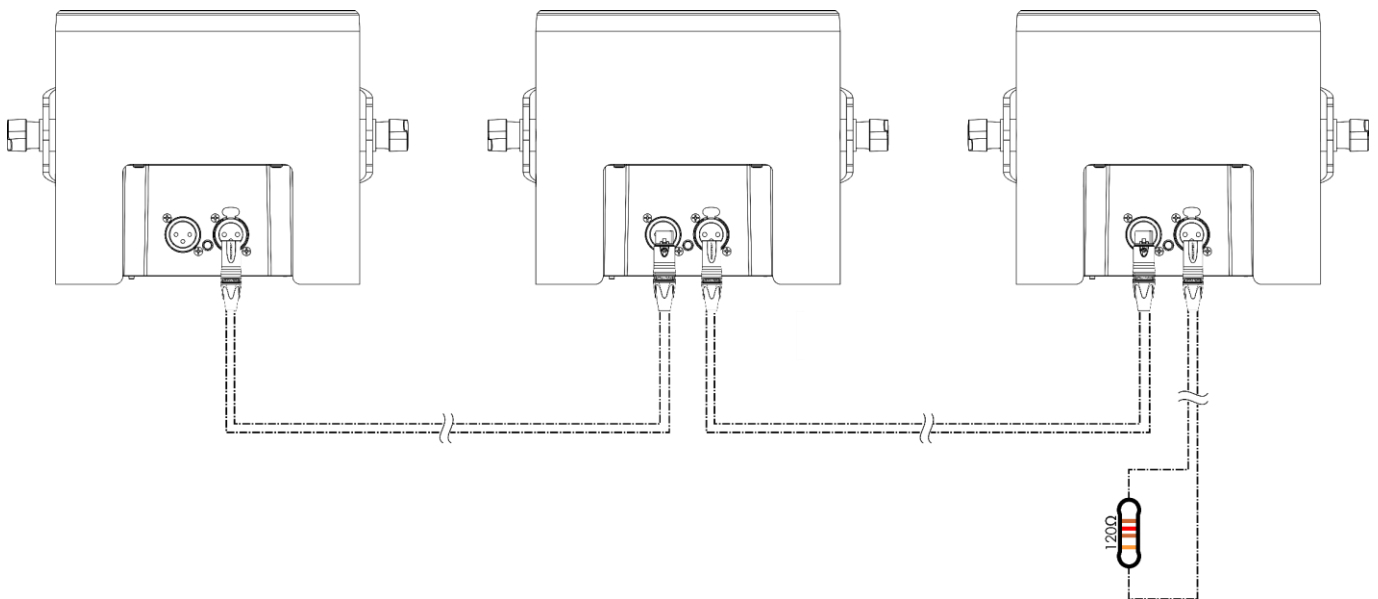

Fig. 12
- 02) Repeat step 1 to connect all devices as shown in Fig. 12. The first connected device will be automatically recognized as the master device.